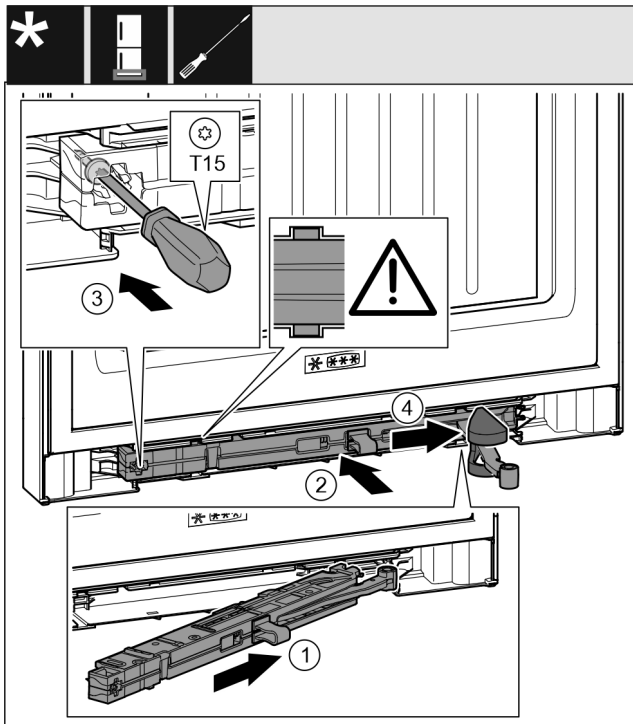

Fig. 40
- ▶ On the swap bearing block side, slide the closing damper unit Fig. 40 (1) into the recess at an angle up to the stop.
- ▶ Push the closing damper unit Fig. 40 (2) into the recess completely.
- ▶ Use a screwdriver to tighten the screw Fig. 40 (3).
- ▶ Push the cover Fig. 40 (4) over the joint.